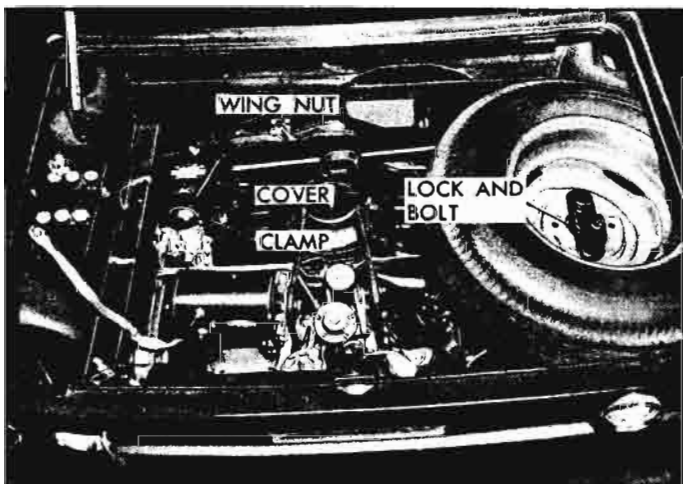

Fig. 9-38—Air Cleaner Mounting
2. Remove wing nut clamps and air cleaner covers (fig. 9-38). Lift out filter element.